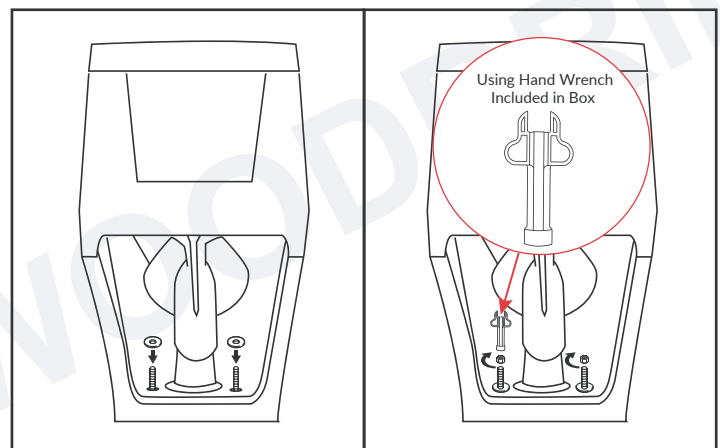

Figure 7
**Step 2.** Once the toilet is set and leveled install washers and nuts over the closet bolts. Tighten nuts. Do not overtighten the nuts. It may and will cause damage to the toilet's ceramic base. **Please keep in mind that because this is a skirted trap-way toilet, it may require a little more time, patience and accessibility to complete install.** See Figure 7